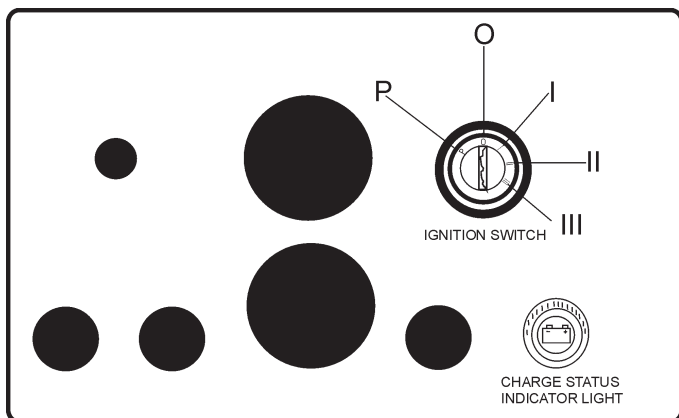

Figure 6. Control Box
1. Insert ignition key into ignition switch located on control box (Figure 6)